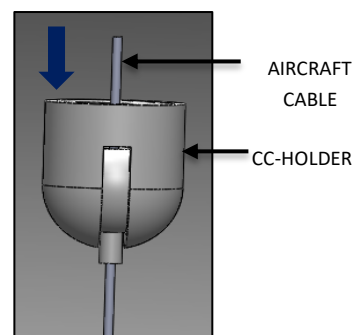

FIG. 25 – SS ROPE CABLE
14. Feed the AIRCRAFT CABLE through the CC-HOLDER. Adjust the AIRCRAFT CABLE to the desired length and place it aside as shown in FIG. 25.